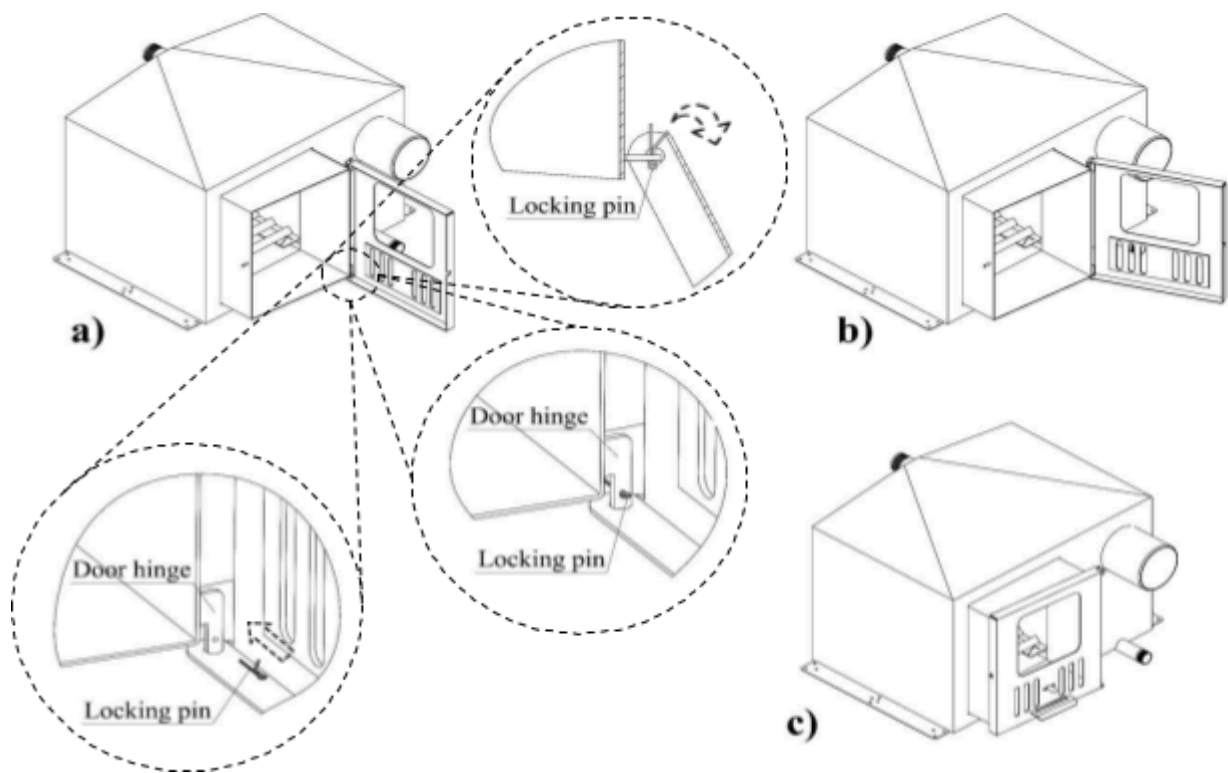

Figure 10. Locking down of integral heater doors (*Assembly step 8*).
Step 8. Lock down the doors of integral heater (see Fig. 10).